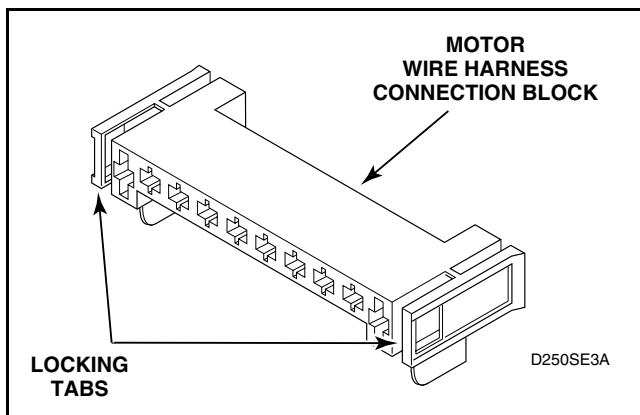

Figure 32
- Disengage motor wire harness terminal block from motor switch by pressing in on the movable locking tabs (located on each end of the terminal block) and pulling away from motor. Refer to *Figures 32 and 33*.
- (1) Disengage motor wire harness terminal block from the motor by pressing in on the movable locking tabs (located on each side of the terminal block) and pulling away from motor. Refer to *Figure 32*.